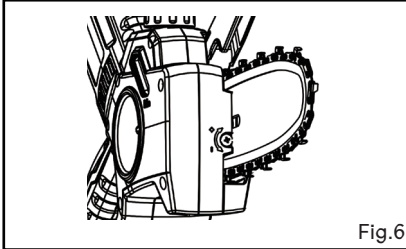

Fig.6
3. Lift-up the guide bar tip slightly and adjust the chain tensioning screw (Fig.6). Use a Phillips screwdriver (not included) to turn the chain tensioning screw clockwise to tighten and counterclockwise to loosen.